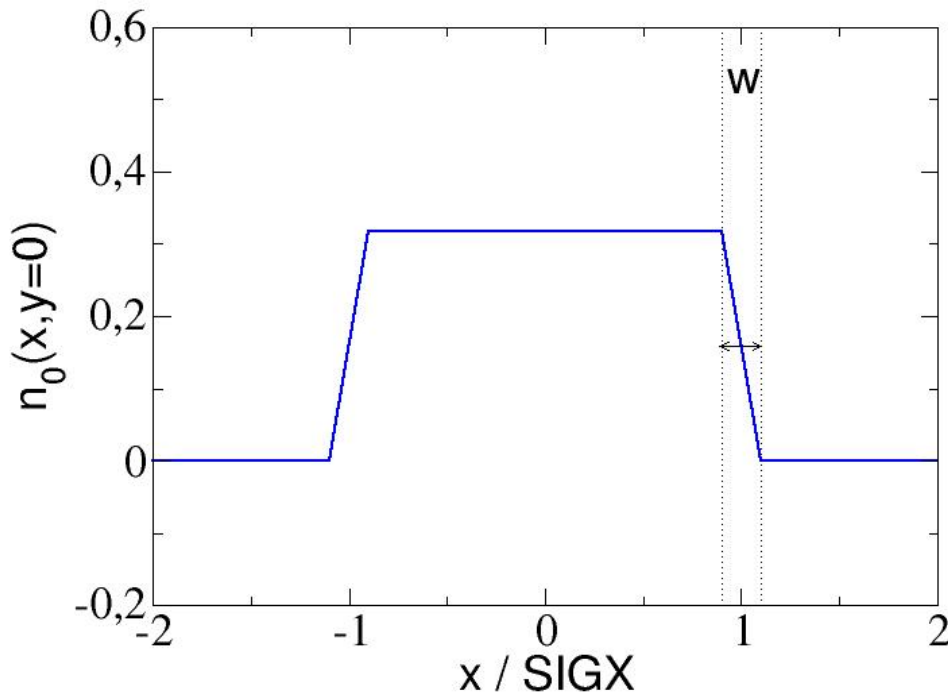

Figure 10.2: Trapezoidal shape of radial density for beam-beam lens.
- **BBSHAPE=2**: trapezoidal shape (see fig.10.2), **SIGX**, **SIGY**: half width of density profile, i.e. distance from the centre to half edge region with linear decrease of density in horizontal, vertical direction. Still only circular opposite beam possible, i.e. in the calculations $SIGX' = SIGY' = (SIGX + SIGY) / 2$ is used, if **SIGX** and **SIGY** have different values.